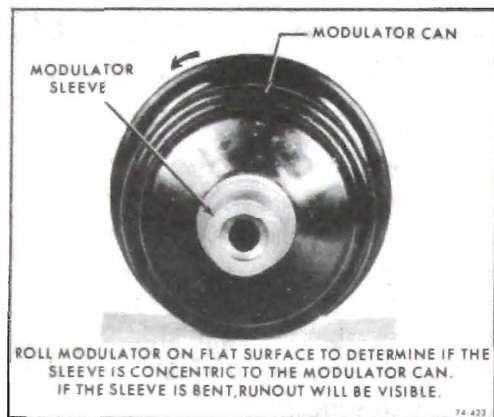

Figure 76-798 - Checking Modulator Sleeve Alignment
2. Check modulator valve sleeve alignment. Roll modulator on a flat surface to determine if the sleeve is concentric to the modulator can. See Figure 76-798. If the sleeve is bent,